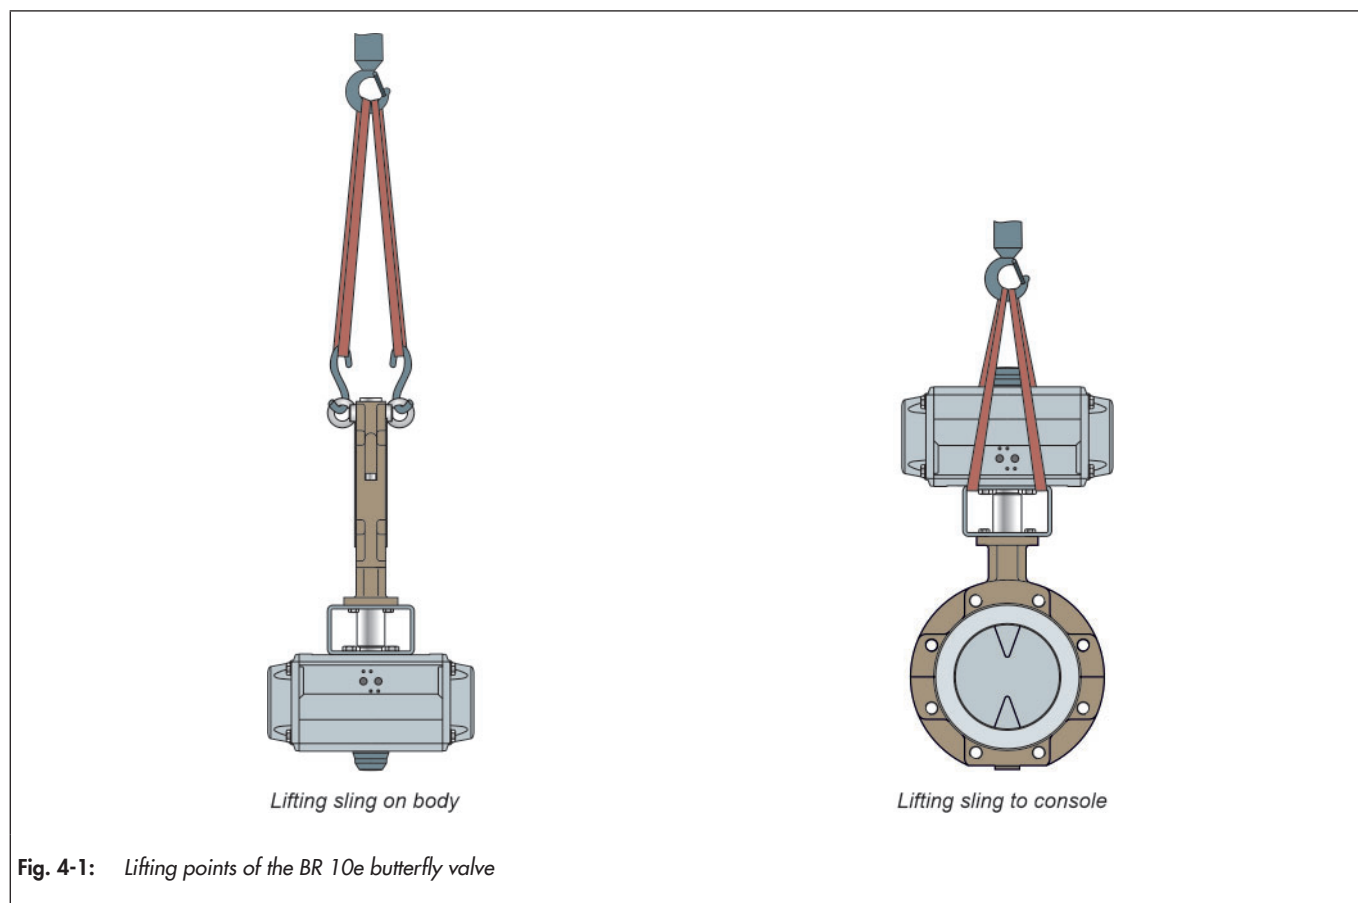

Fig. 4-1: Lifting points of the BR 10e butterfly valve
- ⇒ Use a hook with a safety clamp as the suspension element so that the sling cannot slip off the hook during lifting and transport, see Figure 4-1.
- ⇒ Fasten a lifting sling to each suspension element (e.g. hook) of the crane or forklift, see Figure 4-1.
- ⇒ Fasten a lifting sling to the bracket and the suspension element (e.g. hook) of the crane or forklift, see Figure 4-1. When doing so, ensure the safety, bearing capacity and length of the lifting slings.